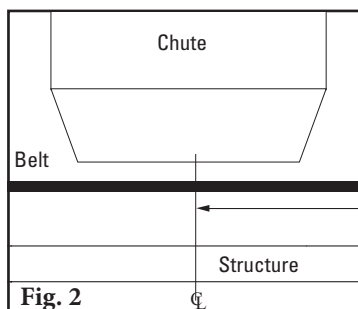

Fig. 2
- Visually locate center of loading zone.** Determine the center of the load zone on one side of the structure and mark (Fig. 2).
2. **Loosen bed halves.** Remove bolt from each side of each cross-stringer (Fig. 2).